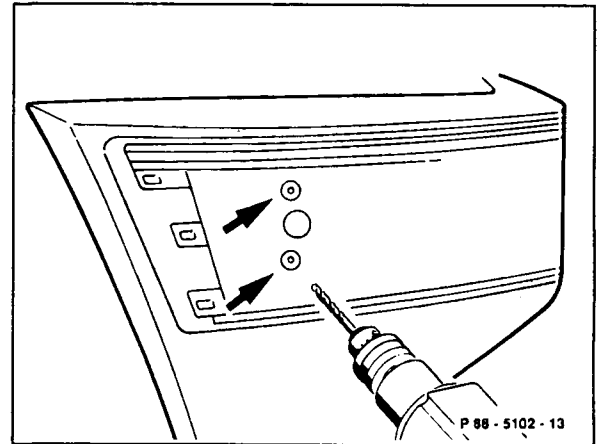

Figure 5
7. Disconnect bracket by drilling out rivets in side bracket (Figure 5). Unscrew the three front brackets.